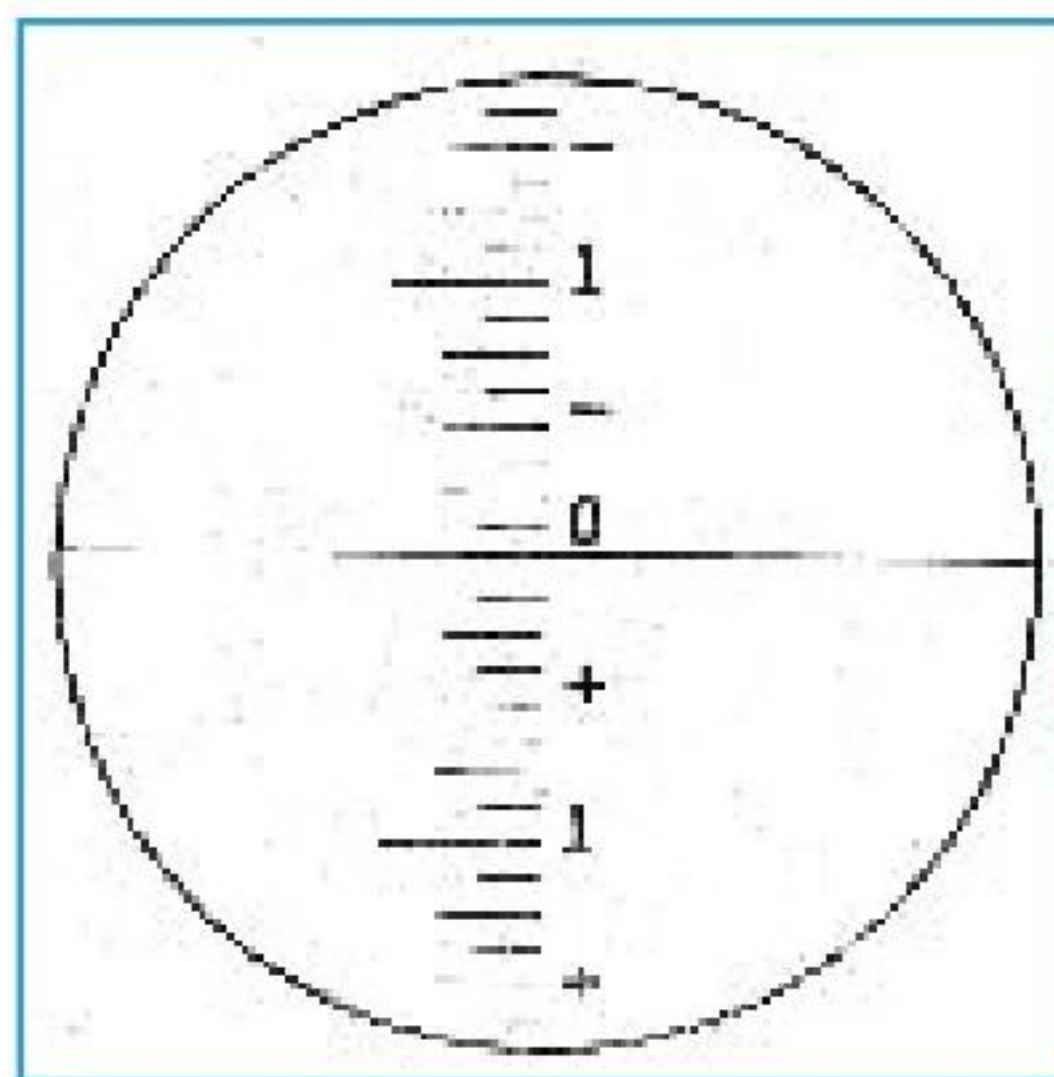

Fig. 5
3.3 Reading division board (Fig.5)